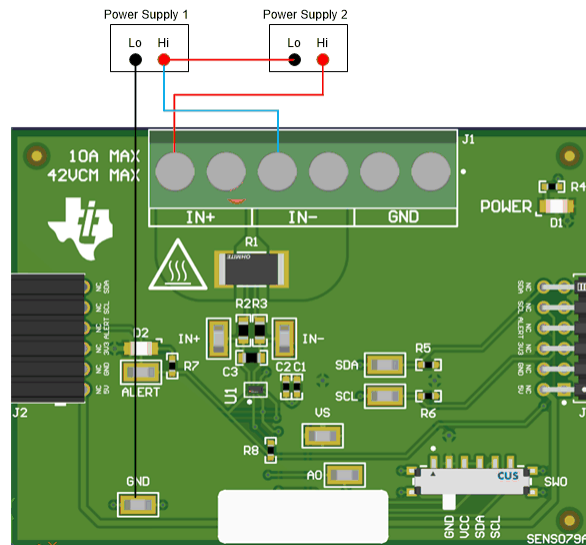

Figure 4-10. IN+ and IN– Wiring Without a Shunt Resistor
1. Connect a differential voltage across the IN+ and IN– terminals as shown in Figure 4-10.